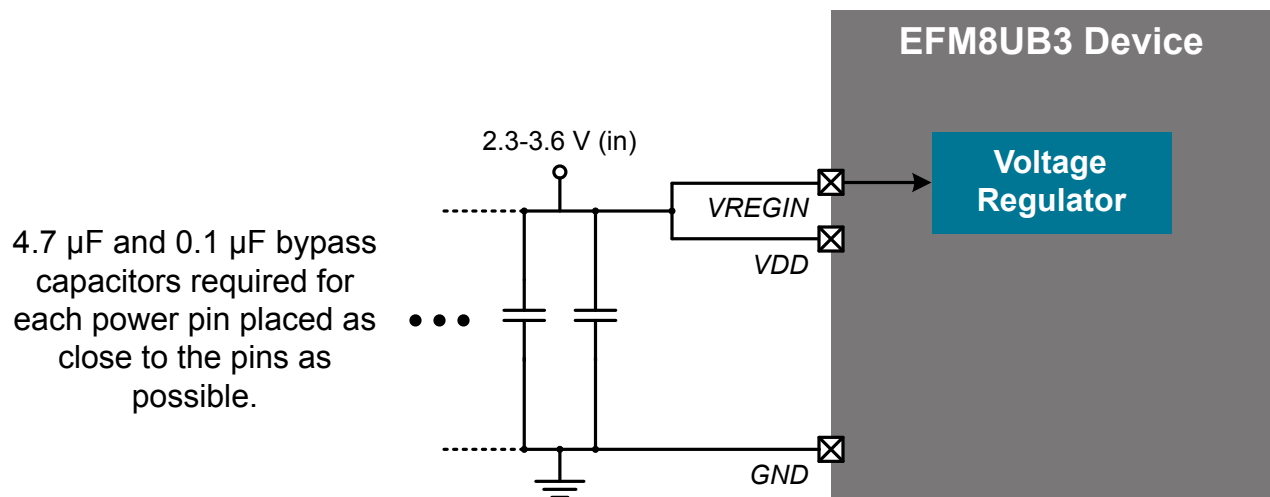

Figure 5.3. Connection Diagram with Voltage Regulator Not Used (Self-Powered)
- Updated the title of Figure 5.3 Connection Diagram with Voltage Regulator Not Used \(Self-Powered\) on page 34 to include "Self-Powered".